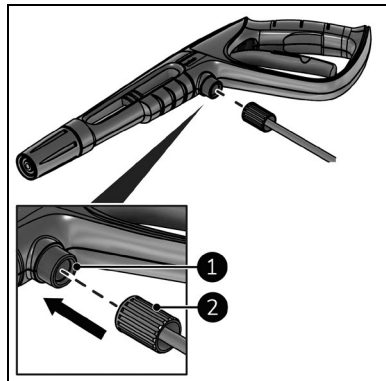

Figure 12
2. Screw the high-pressure hose (Figure 12, pos. 2) onto the jet gun (Figure 12, pos. 1).